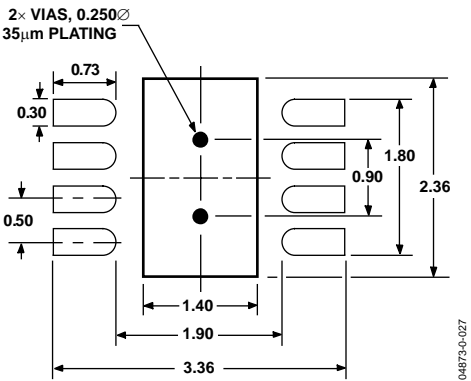

Figure 27. 3 mm × 3 mm LFCSP Pad Pattern
- The pad pattern is shown in Figure 27. Follow the pad dimension closely for reliable solder joints while maintaining reasonable clearances to prevent solder bridging.